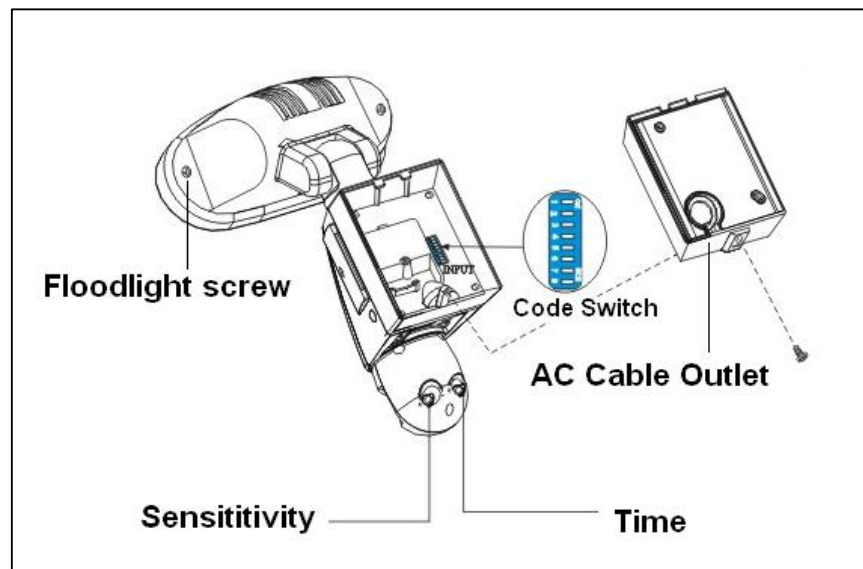

Fig. 2
2. Definition of back view parts (see fig. 2)
5. Other settings (see fig. 2)